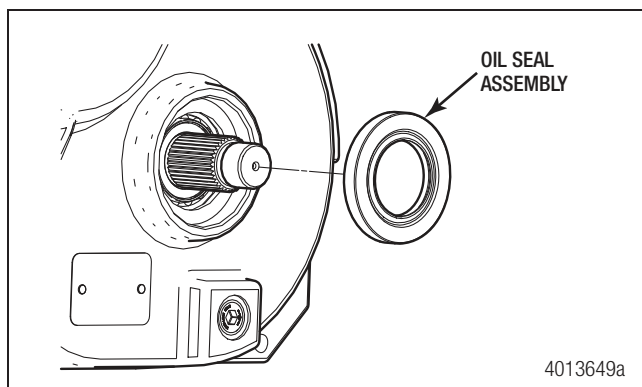

Figure 4.32
3. Remove the oil seal assembly from the case bore. Discard the oil seal. Figure 4.32.